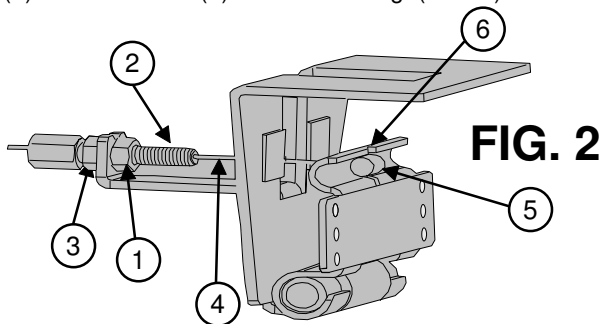

FIG. 2
Unscrew the front nut (1) on the valve cable and insert the cable (4) through the slot on the back side of support bracket AG250-203 pedal. The rear nut (3) remains at the end of the thread (2). Adjust cable holder (2) for proper pedal operation and secure its position with nuts (1) and (3). Control cable (4) should be snug. (FIG. 2)
Insert valve cable end T-bar (5) into the pedal lever (6) (FIG. 2)